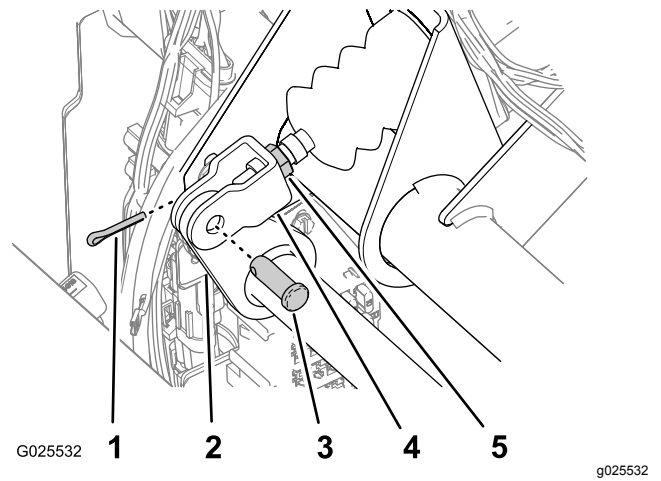

Figure 76
- Remove the cotter pin and clevis pin securing the master cylinder yoke to the brake-pedal pivot (Figure 76).
- Loosen the jam nuts securing the yoke to the master cylinder shaft (Figure 76).
- Adjust the yoke until its holes align with the hole in the brake-pedal pivot (Figure 76).
- Secure the yoke to the pedal pivot with the clevis pin and cotter pin (Figure 76).
- Tighten the jam nut securing the yoke to the master cylinder shaft (Figure 76).